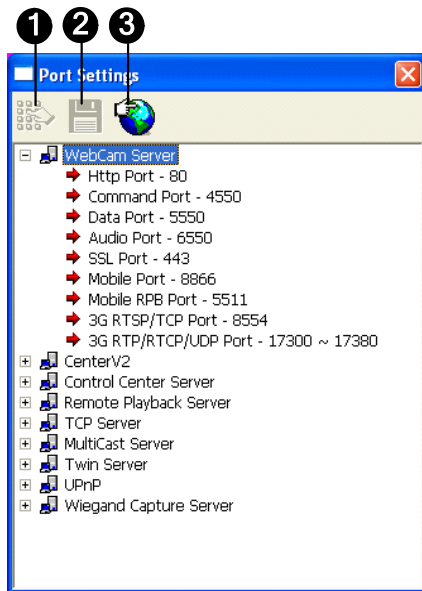

Figure 8-16
2. On the Single View, click the **Change Quality** button (No. 9, Figure 8-16). You will have the option of megapixel resolution now.